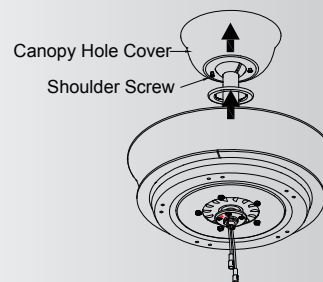

Fig. 17
**Step 3.** Securely attach and tighten the canopy trim ring over the shoulder screws in the mounting bracket utilizing the keyslot twist-lock feature. (Fig. 17)